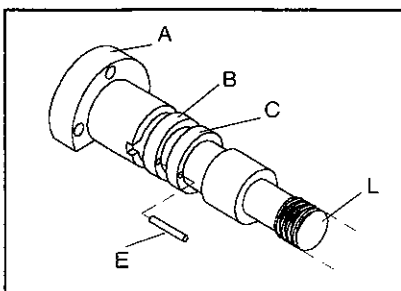

Fig.26
**LEADSCREW SHEAR PIN (Fig.26)**